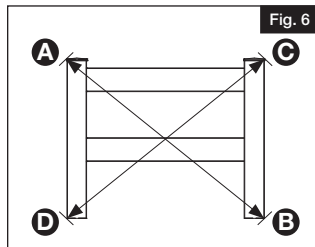

Fig. 6
Measure diagonally from top of left corner rail (A) to bottom of right corner rail (B) and note the length. Then, measure diagonally from top of right corner rail (C) to bottom of left corner rail (D). Note the length. Make sure both measurements are the same before installing screws into uprights (Fig. 6).